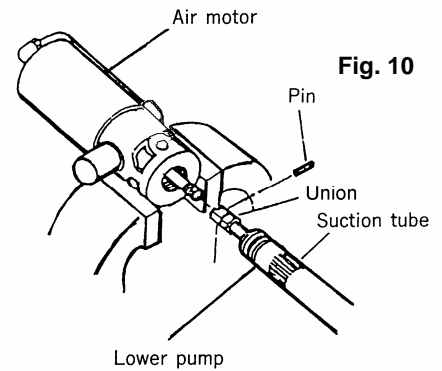

Fig. 10
- 1) Disconnecting the piston rod of the air motor from the connecting rod by removing the pin. (Fig.10)